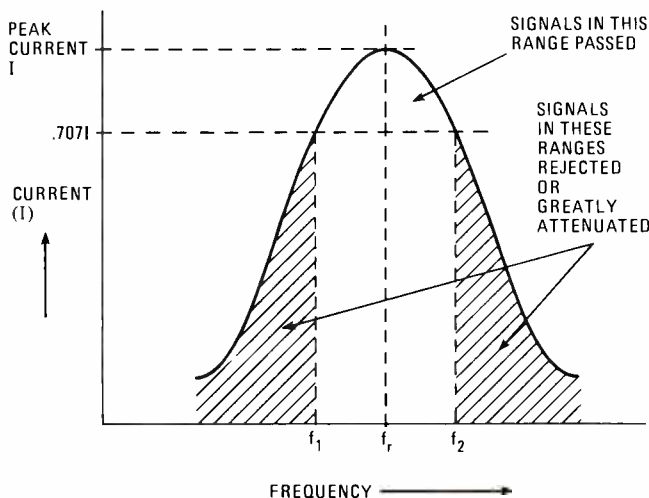

Fig. 7—The peak signal current in a series-resonant tuning circuit occurs at f_r , the resonant frequency.
15. (series) The ability of a resonant or tuned circuit to select a signal depends upon the response of the circuit to frequency changes. You saw this earlier in the plots of impedance and current vs. frequency. Figure 7 shows how the circuit current varies with frequency changes of the applied voltage. At the resonant frequency (f_r), the current is the highest and the resonant step-up voltage appears across the capacitor. The idea is to adjust the capacitance value so the resonant frequency of the circuit corresponds to the transmitting frequency of the station to be received. At this time, peak current occurs.
16. (equals) The important thing to note in Fig. 7 is that the plot of current vs. frequency is not a single sharp spike occurring at the resonant frequency. Instead, the current is high over a range of frequencies. It drops off gradually on either side of the peak. For that reason, the tuned circuit will pass or accept frequencies close to and on either side of the resonant frequency nearly as well as a signal exactly at the resonant frequency. This range of frequencies over which a tuned circuit will accept signals is called the *passband* or the *bandwidth* of the circuit.
18. (good selectivity) The size of a passband is called the *bandwidth* and is measured in frequency. It is measured between two points on the curve that are 70.7% of the peak value. At these points, the amplitude is 3 dB down from the peak value. Specifically, the peak value of the circuit current is multiplied by .707 to obtain the upper and lower points on the curve that defines the circuit bandwidth. See Fig. 7. The .707 amplitude points define two frequencies, f_1 and f_2 . It is assumed that any signal whose frequency is between these two points will be passed essentially unattenuated. Any frequency outside the bandwidth will be greatly attenuated or rejected by the tuned circuit.
19. (.707) Refer to Fig. 7. If the peak is 3, the bandwidth is defined by those points on the curve that are $.707 \times 3 = 2.121$. The point below the center or resonant frequency (f_r) is called the lower cut-off frequency (f_1). The other point above the center frequency is called the upper cut-off frequency (f_2). The difference between the upper and lower cut-offs is the bandwidth (BW).